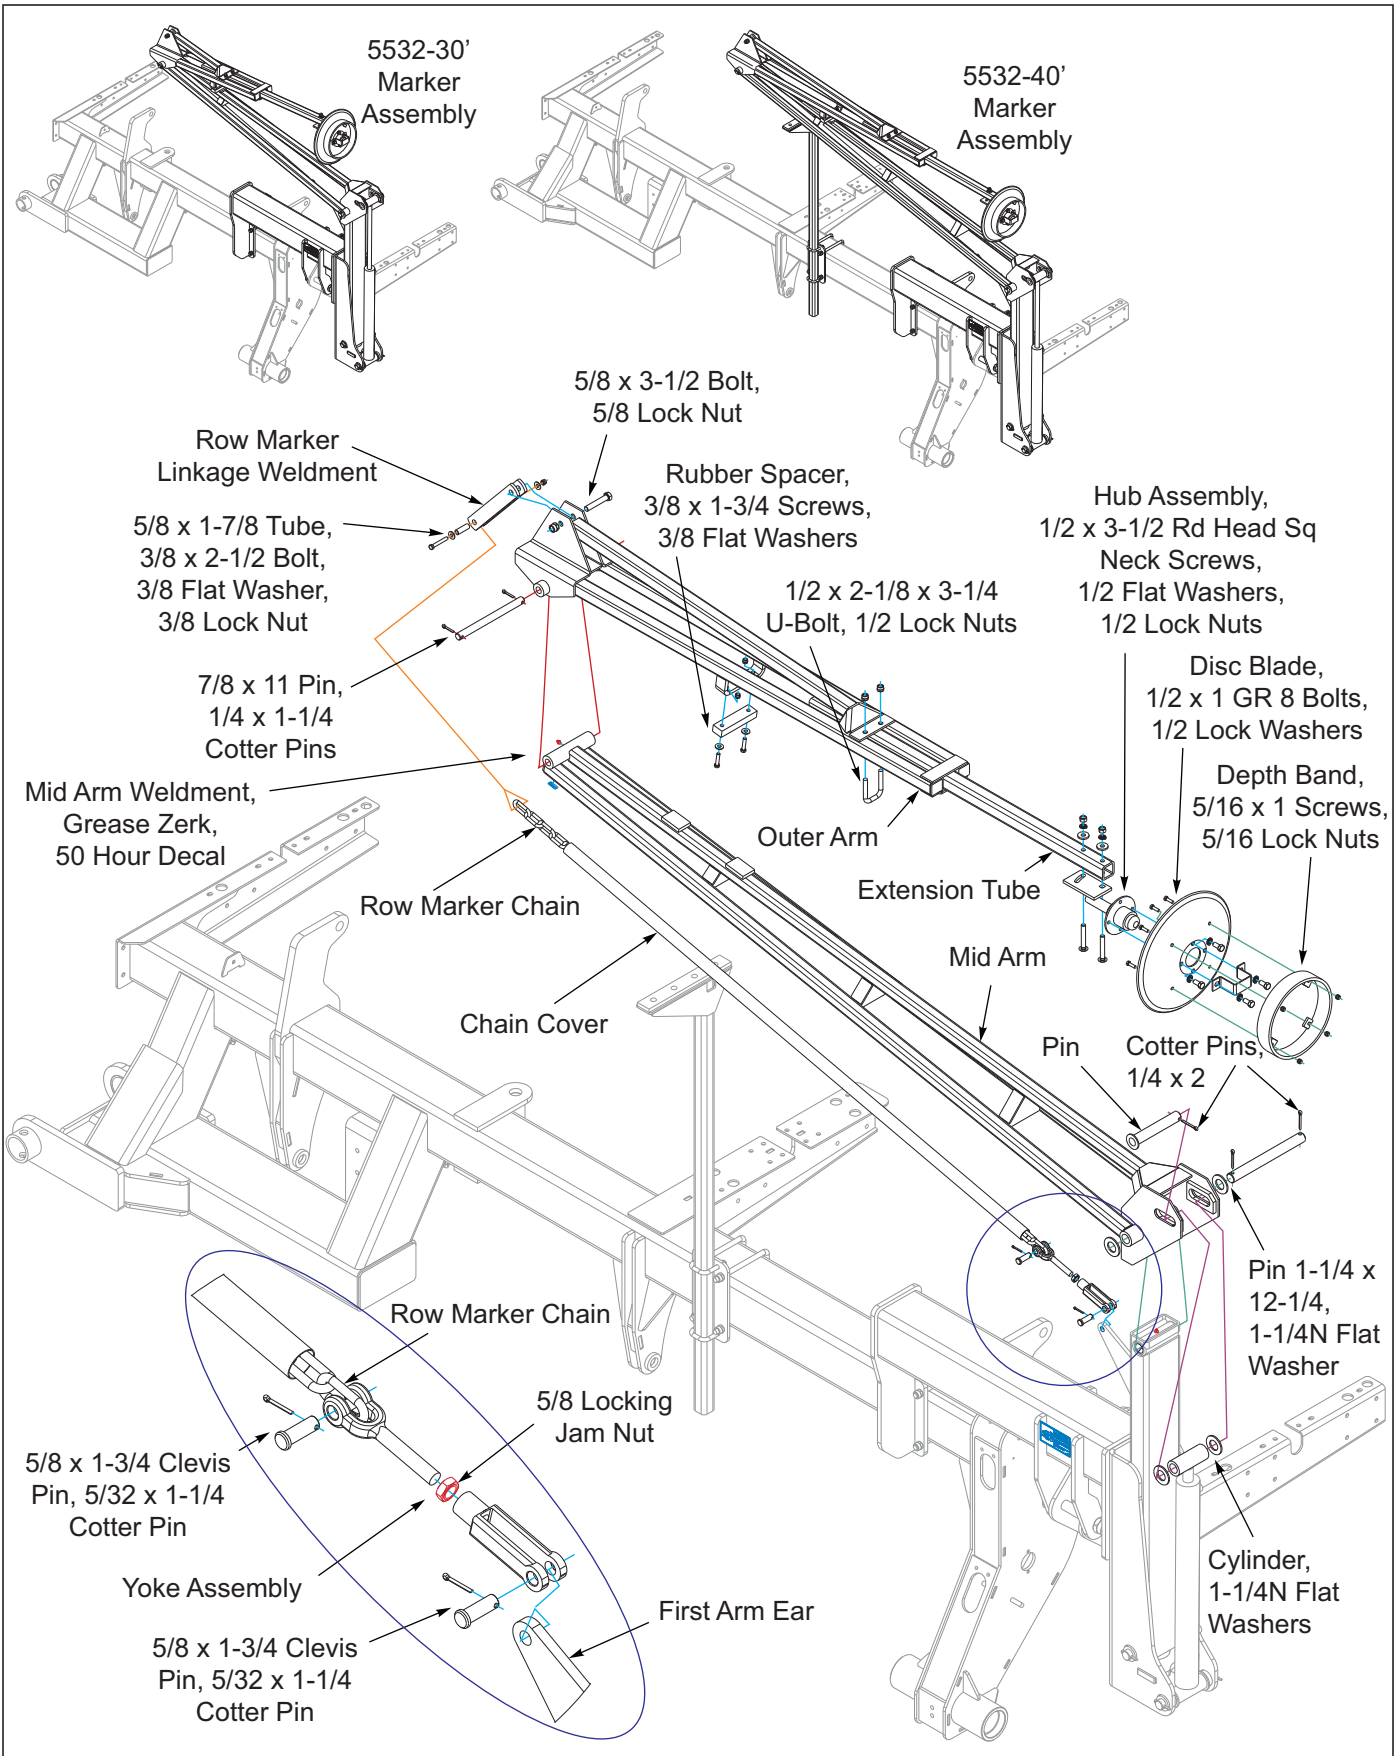

Figure 3-16: Marker Assembly (2 of 2)
18. Connect the mid arm weldment to the first arm with 1-1/4x12 pin, 1-1/4 flat washers, and 1/4 x 2 cotter pins. Install a grease zerk in the outer end of the mid arm weldment **See Figure 3-16**.
20. Assemble the outer arm to the mid arm, using 7/8 x 11 pin and 1/4 x 1-1/4 cotter pins **See Figure 3-16**.